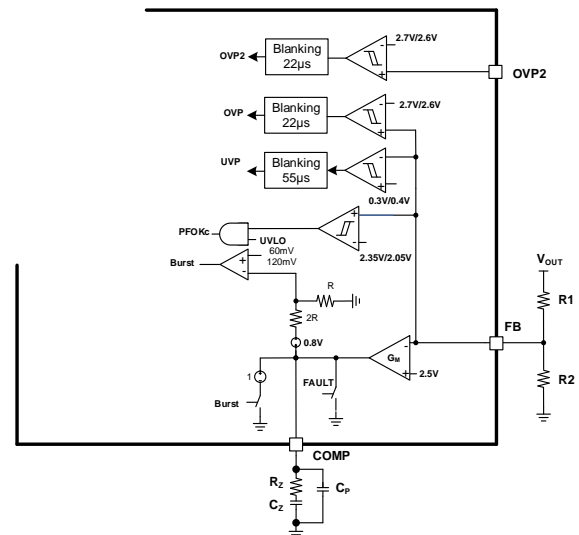

Figure 13: FB Functional Block
The boost PFC output voltage is sensed on FB, and is compared with the internal reference (V_{REF} , typically 2.5V) (see Figure 13 on page 19). R_{O1} is recommended to be 10M Ω to minimize power consumption. R_{O2} can be calculated with Equation (1):
Figure 13 shows that if the FB voltage (V_{FB}) exceeds the OVP trigger threshold (typically 2.7V), the OVP comparator shuts down the output of the gate drive circuit after a blanking time (t_{BL_OVP}) of 22 μ s. Switching resumes when V_{FB} drops to 2.62V.
The second OVP comparator shuts down the output of the gate drive circuit after a blanking time of t_{BL_OVP2} (typically 23 μ s), see Figure 13.